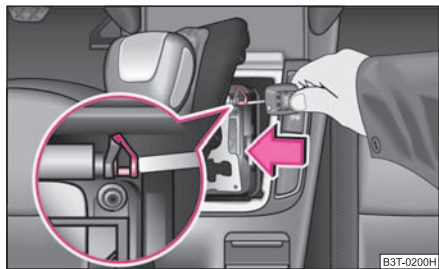

Fig. 137 Selector lever-emergency unlocking
- Press with a narrow object (e.g. ignition key) the yellow plastic hoop ⇒ fig. 137 to the left.